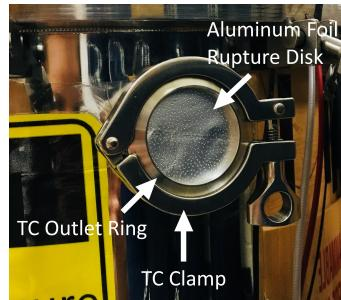

Figure 10: Ensure the rupture disk is present and intact
1. Remove the O-ring and the TC outlet ring from the pressure vessel by removing the TC clamp (See Figure 10)
2. Ensure the vessel rupture disk is intact and positioned correctly (See Figure 10)